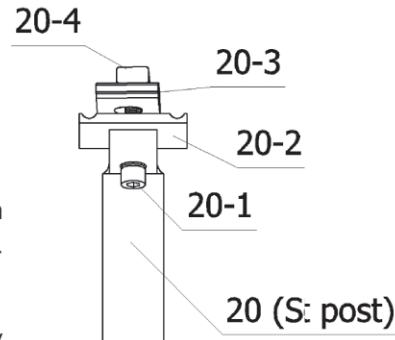
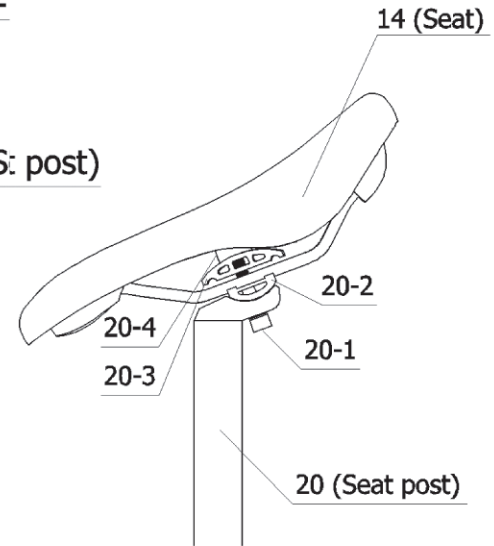

Figure 23-2.
Figure 23-3.
- b. Rotate the upper cover (Part 20-3 and Part 20-4) by 90°, as shown in Figure 23-2, and then fit the guide rail of the saddle into the groove of the saddle pipe, as shown in Figure 23-3.